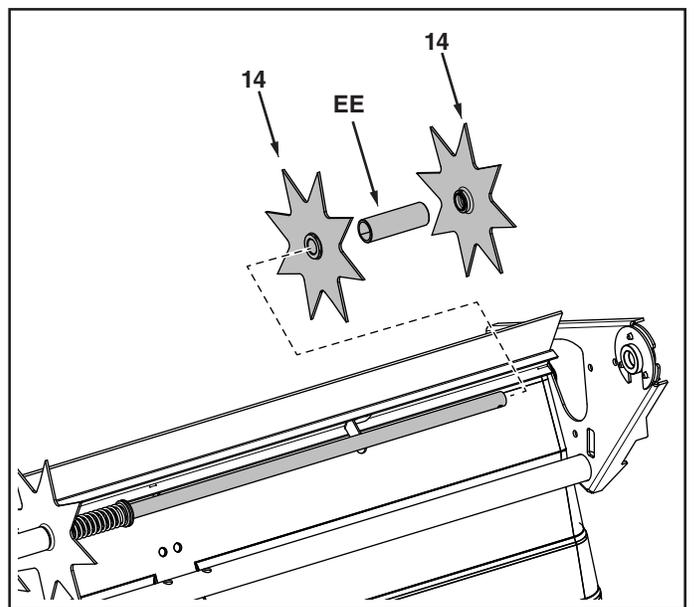

FIGURE 8
- Assemble two spike disks (14) and a 2.9" spacer (EE) onto the axle. The flat side of the disks should face away from the spacer. See figure 8.